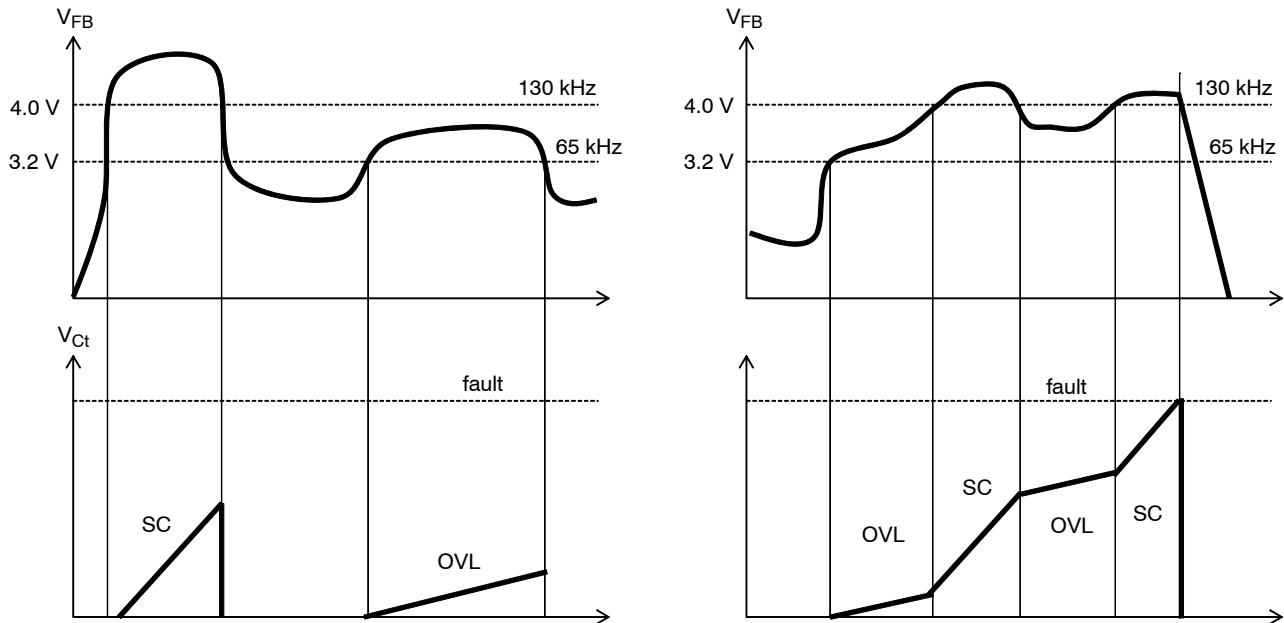

Figure 44.
2.4 V. When the maximum peak current situation is lifted, the converter returns to a normal situation, the timer is reset. The short circuit situation is detected by sensing a feedback voltage beyond 3.6 V. For the sake of the explanation, we have gathered two different events in Figure 44: